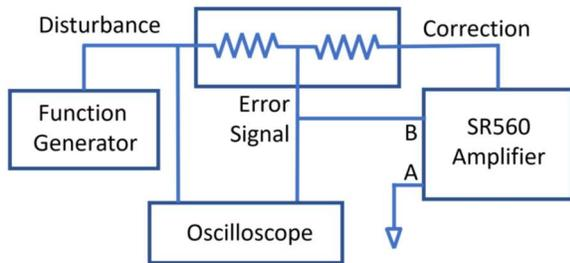

Figure 4. Constructing a feedback-control system around the two-resistor network shown in Figure 2.. The SR560 is set so its input equals A-B.
In the Ph77 lab, you can build a feedback control system around this two-resistor network using the layout shown in Figure 4. The function generator creates a known *Disturbance* signal, which sends the *Error Signal* to some nonzero value. The error signal is then amplified and sent into the *Correction* port, with the intention of reducing the size of the error signal voltage. This is called a *Proportional Gain* servo because the correction signal is simply proportional to the error signal. This is not always the best feedback approach, but it is the simplest.
**Exercise 1.** Set up this servo system in the lab, starting with  $G=1$ . Use a small disturbance signal – say a 100Hz, 100mVrms sine wave, so you don't overload the SR560. Also, include a 1kHz low-pass filter in the SR560 to help with servo stability. Put both the D and E signals on the oscilloscope, as shown in Figure 4, and tidy up the display until you get something that looks like Figure 5. Adjust the SR560 gain and the low-pass filter rolloff frequency to see what happens, then turn the gain up to  $G=50$  to produce a result like that in Figure 5. Add a copy of your screenshot to your e-notebook.
- 2) Instead of sending the error signal directly to the ‘scope, as shown in Figure 4, send the LB1005 Error Monitor output to the ‘scope instead.
Now change the circuit a bit by sending the error-signal directly to the ‘scope, rather than using the LB1005 Error Monitor (see Figure 4). You will now see that the Input Offset knob changes the DC offset of the error signal. This is because the LB1005 subtracts the Input Offset to create a new error signal, and this new error signal is what the controller sets to zero. The offset can be either positive or negative, and the offset is zero when the dial is set to 5.0.